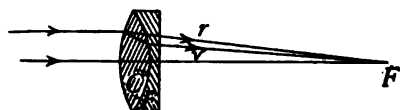

FIG. 403.—An achromatic lens. *C* is of crown glass; *F*, of flint glass.
**401. The Achromatic Lens.**—The existence of these different kinds of glass makes possible a combination of lenses in which dispersion is entirely overcome with the loss of only about one-half of the refraction. Such a combination is shown in Fig. 403. It is called an *achromatic lens*, since images formed by it are not colored but white (*a* = without, *chroma* = color). *The achromatic lens consists of a double convex lens of crown glass combined with a plano-concave lens of flint glass*. Achromatic lenses are used in all high-grade optical instruments such as